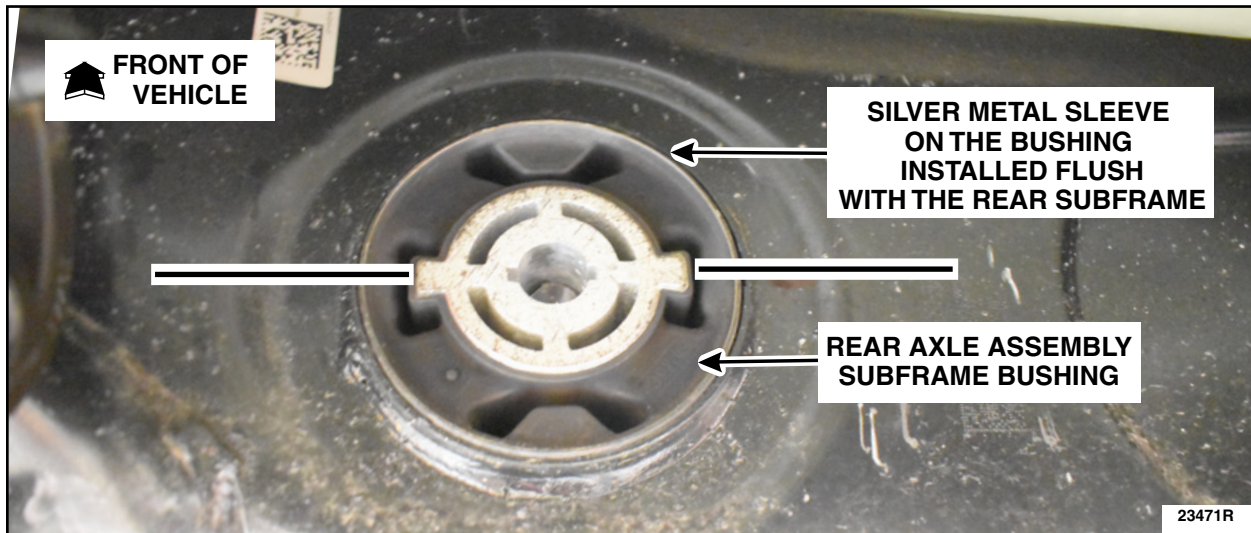

FIGURE 20
NOTE: Make sure the tabs on the *new* rear axle assembly subframe bushing are horizontal with the subframe. See Figure 20.
27. Using the ESST tools listed below, install the *new* rear axle assembly subframe bushing. See Figures 20 and 21.